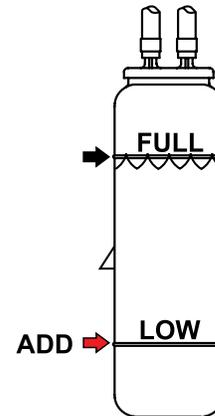

Figure 11. Coolant Recovery Tank
Day-to-day addition of coolant is done from the recovery tank (Figure 11). When adding coolant to the radiator, **DO NOT** remove the radiator cap until the unit has completely cooled. See Table 7 for engine, radiator, and recovery tank coolant capacities.
1. Verify that the coolant level in the coolant recovery tank is between the **FULL** and **LOW** markings as shown in Figure 11.